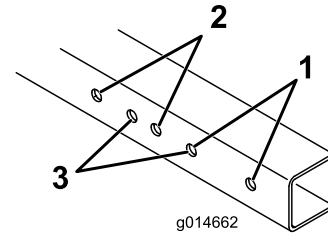

Figure 2
1. Refer to Figure 2 to determine which mounting holes that you should use to fit the width of your greensmower.
Note: On Greensmaster 1000, 1010, and 2000 machines equipped with a groomer, remove the wheel shaft on the groomer end and purchase and install a new wheel shaft (Part No. 106-5385). Also, mount the rail assembly on the groomer end to the Greensmaster 1600 and 1610 hole locations (Figure 2).